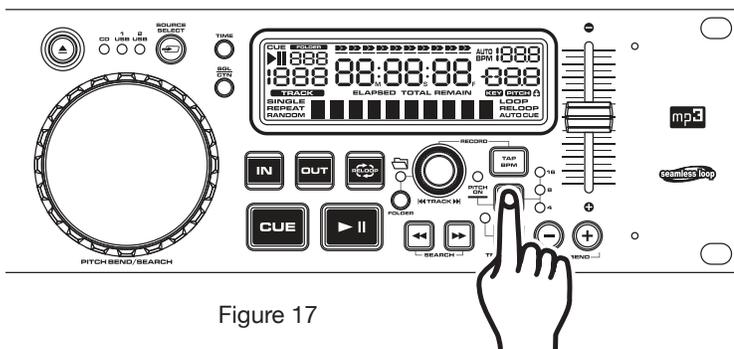

Figure 17
Using the Pitch Slider Percentage Selector (10): You may choose a pitch operating range at any time. To change the operating range be sure the pitch function is turned on, see figure 17. The pitch percentage can be changed between +/-4%, +/-8%, +/-16%, and 100%. 4% will allow the least amount of pitch manipulation and 100% will allow the most amount of pitch manipulation. To adjust the different values, press the *PITCH ON/OFF BUTTON* (10) and Tap on the % *BUTTON* (10) until your desired value is reached. The L.E.D. of the % *BUTTON* (10); glowing yellow for 4%, glowing green for 8%, or glowing red for 16%, and all LEDs glowing for 100%.